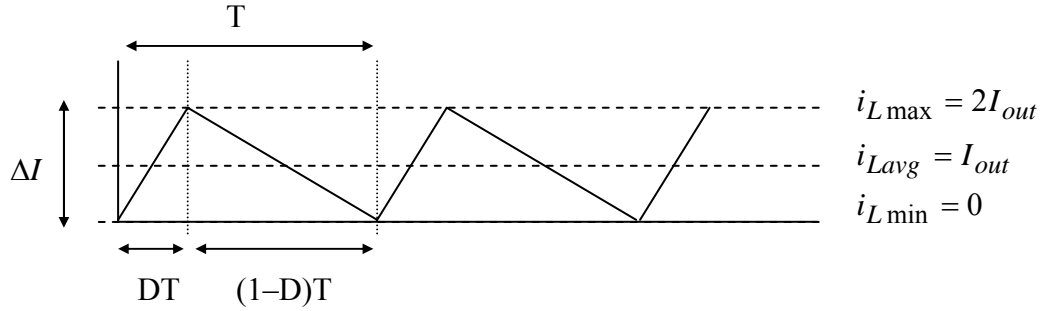

Figure 5. Inductor Current at the Boundary of Continuous Conduction
The boundary of continuous conduction is when $i_{L \min} = 0$, as shown in Figure 5.
As shown, when at the boundary, $\Delta I = 2i_{L\text{avg}} = 2I_{out}$. Using Figure 5 and the “inductor discharging” slope in (3), we get